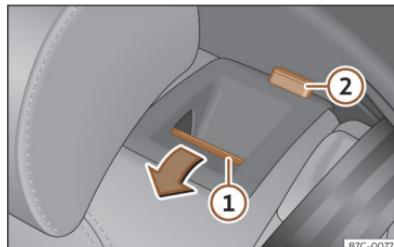

Fig. 97 Rear seat: folding down the backrest.
- Press the unlock button >>> **Fig. 97 ①** forwards and at the same time fold the backrest down. The rear seat backrest is not engaged when the red marking of the button **②** is visible.